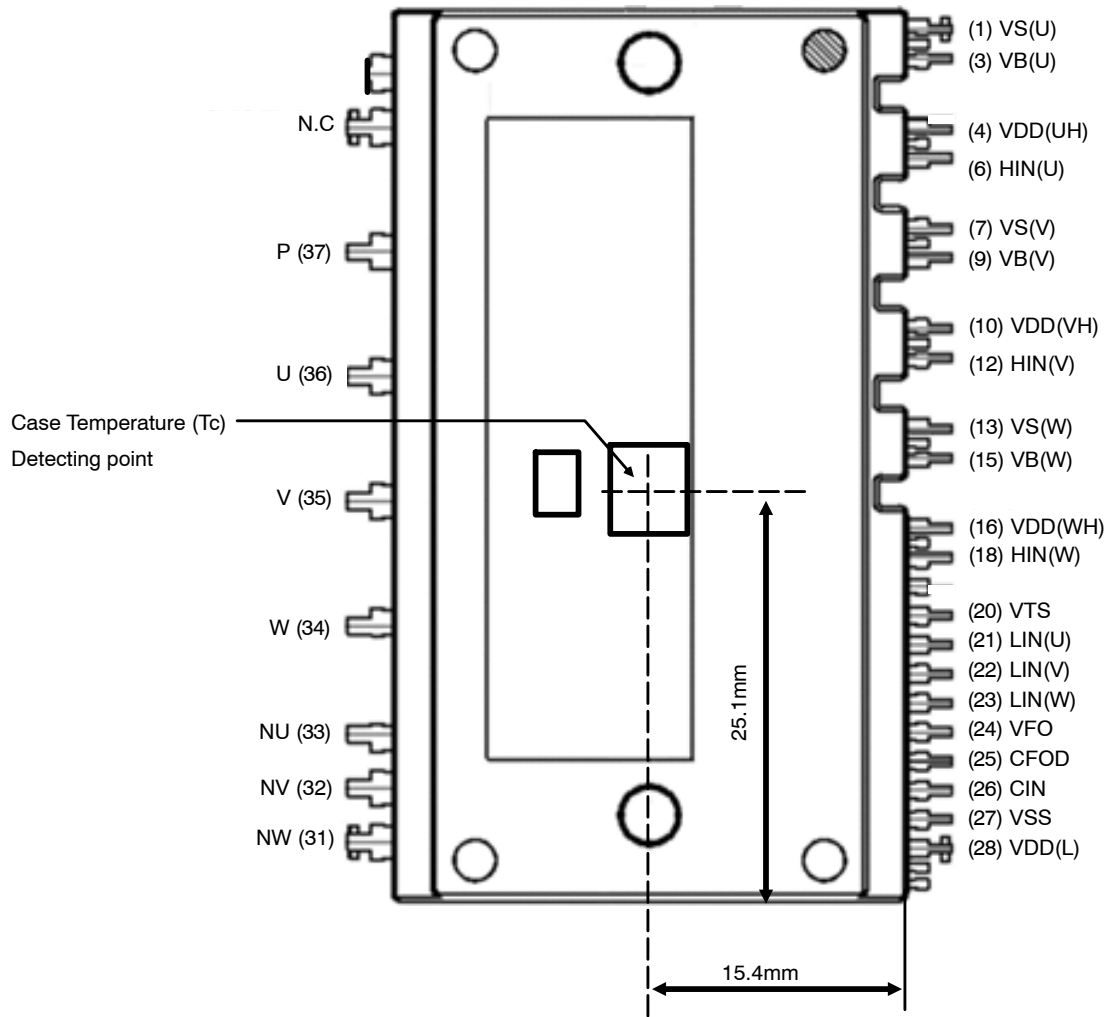

Figure 1. Pin Configuration – Top View
3. For the measurement point of case temperature (Tc), please refer to Figure 1.